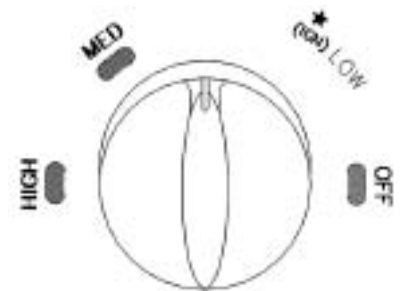

Figure 3 – Heater Control Knob – RA100NGDGD
5. Depress heater control knob and turn counterclockwise to (IGN) LOW position to light burner (see Figure 3).